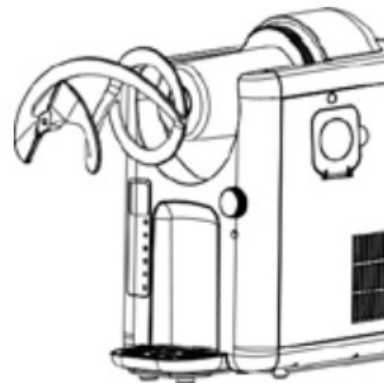

Fig. 9
16. Remove the mixer (Fig. 9) and wipe off any remaining liquid on the housing. Wipe off the cooling cylinder and the seal with a clean cloth. Important: The seal cannot be removed.